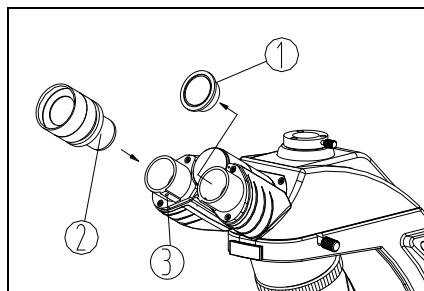

Fig. 6
1. Take down the cover of eyepiece tube ①.
2. Insert the eyepiece ② into the eyepiece tube, until it touches the surface (see Fig. 6).
3. When adjusting diopter by adjustable eyepiece, lock eyepiece with hexagon lock-screw ③ to avoid the eyepiece group ② rotating in eyepiece tube, as the figure shows.